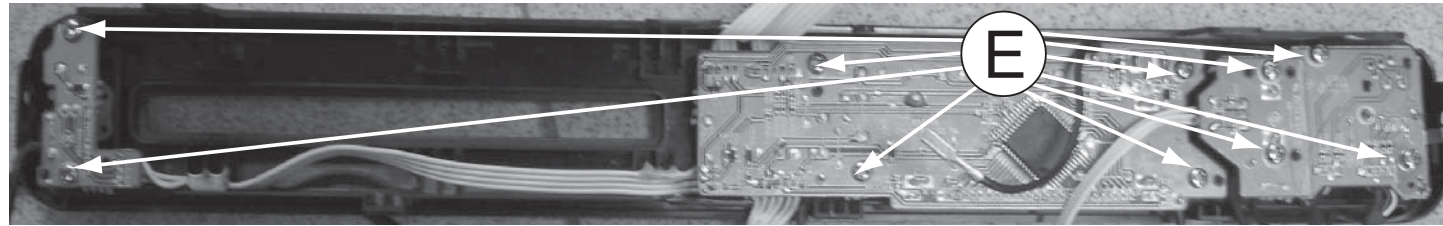

Figure 8
1) Loosen 10 screws "E" on the top of DISP+LED+VOL&MP3 IN Board as shown in figure 8.